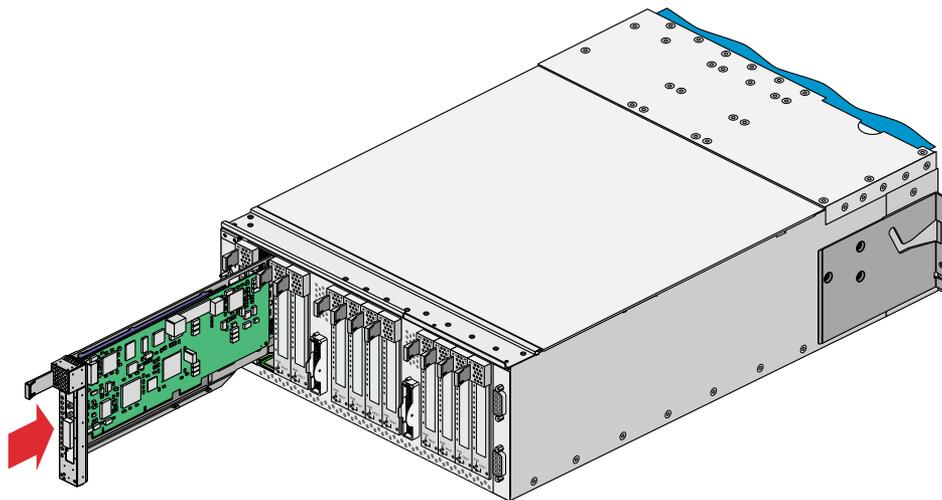

Figure 14-8 Installing Card in Slot
7. Insert the carrier-mounted PCI card into the vacant slot, using the slot guide, as shown in Figure 14-8.